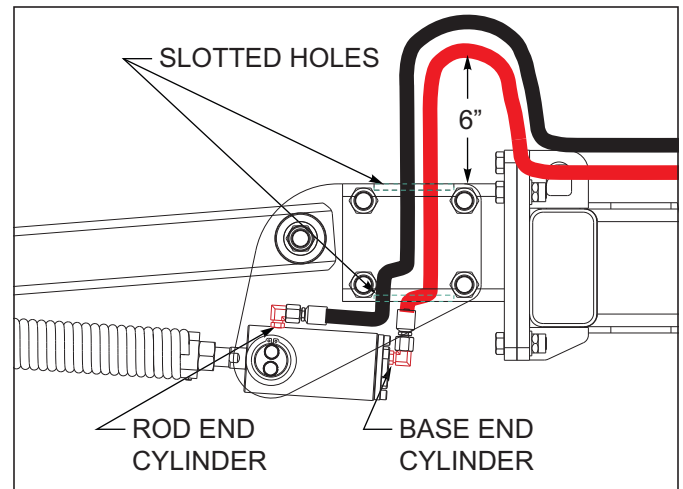

Figure 3-33: Hose to Cylinder Installation
7. On hydraulic Chopper Reel option, attach hoses down through the slotted holes of combo harrow mount arm to cylinders as shown See Figures 3-33. The one hose hooks to base end of cylinder to top set of holes of 8 port manifold, rod end to bottom holes of manifold.